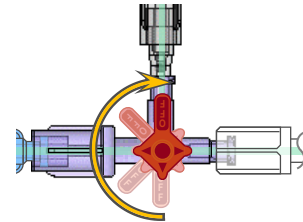

Figure 8 – System Bypass (Savings OFF)
- a. To bypass the DyeVert Power XT System (i.e. no diversion) orient the DyeVert Power XT Stopcock to OFF to the *Valve Selection Stopcock* (see Figure 8). The Power XT System should be bypassed for the following instances: saline flush of catheters or drug delivery.